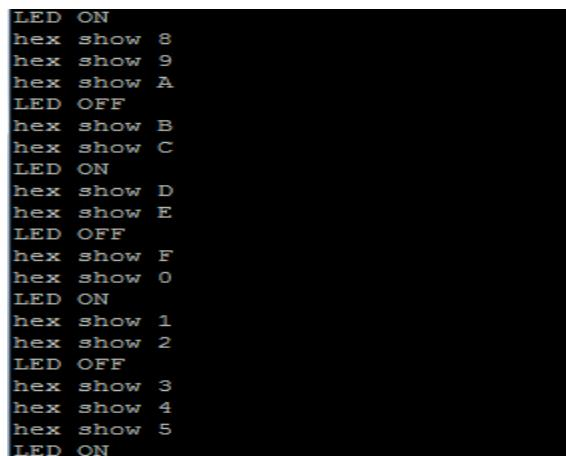

Figure 7-3 Running result in the terminal of PuTTY
- The message shown in Figure 7-3OLE_LINK4, will be displayed in the terminal. The LED[9:0] will be flashing and the number on the HEX[5:0] will keep changing simultaneously.